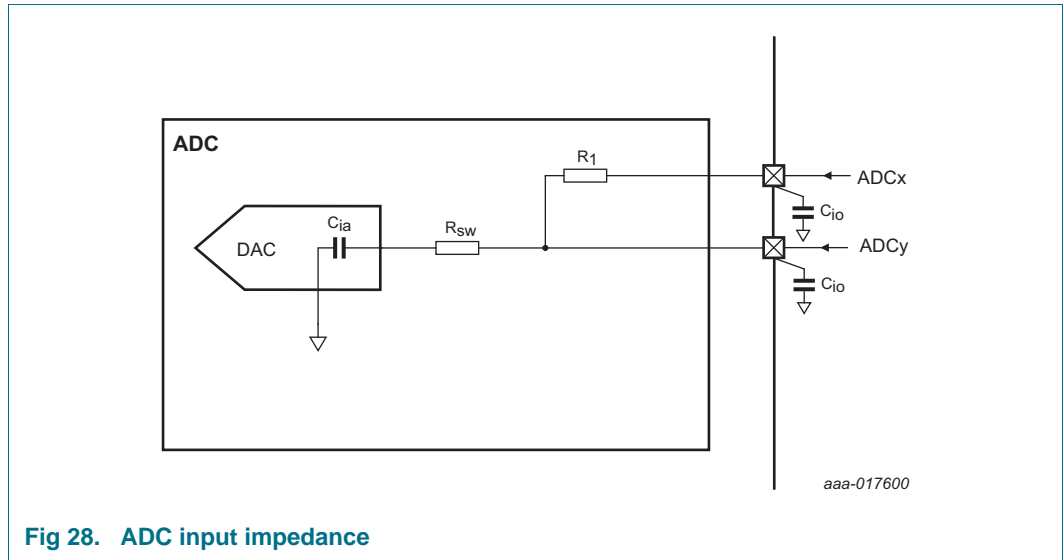

Fig 28. ADC input impedance
- [10] Input impedance Z_i is inversely proportional to the sampling frequency and the total input capacity including C_{ia} and C_{io} : $Z_i \propto 1 / (f_s \times C_i)$. See Table 20 for C_{io} . See Figure 28.
Figure 28 shows the ADC input impedance. In this figure: